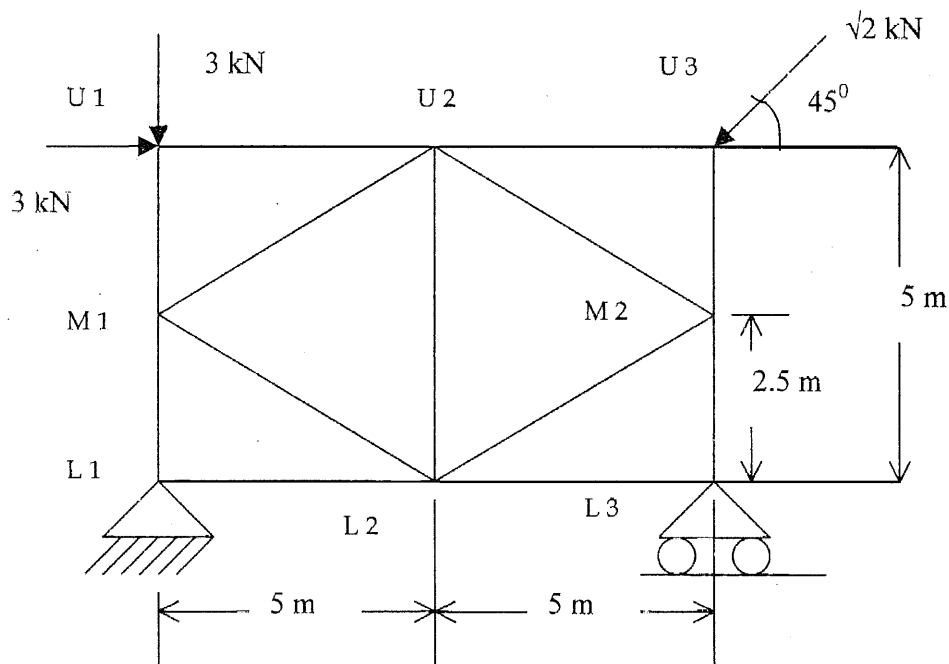

FIGURE Q1 & Q2
(ii). Figure Q1 & Q2 shows the body diagram of a simply supported plane truss.
a) Find member forces of the truss shown in Figure Q1 using the method of Joints. Indicate the sign of each member force clearly. (Use the sign convention Tension – positive)